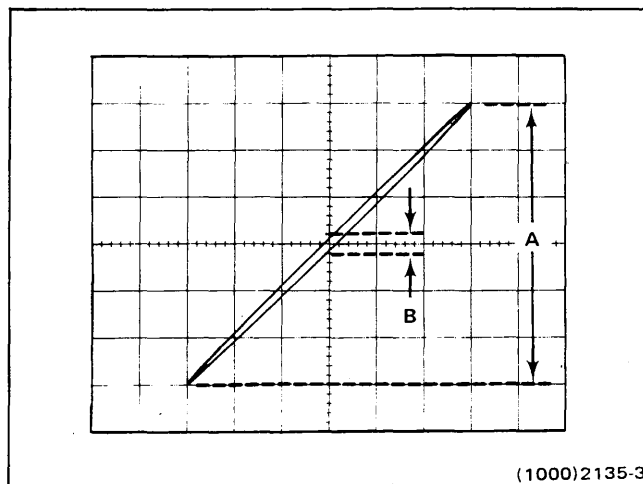

Figure 1-9. Phase difference measurement from an XY display.
4. Advance the INTENSITY control until the display is at the desired viewing level. Set the amplifier deflection factors and variable Volts/Div controls for six divisions of vertical and horizontal deflection, and set the position controls to center the display on the graticule as shown in Figure 1-9.
5. Measure and record the overall vertical deflection (A) and the opening of the Lissajous display (B), measuring vertically at the graticule horizontal center line (see Fig. 1-9).
EXAMPLE: Assume a display as shown in Figure 1-9, where A is 6 divisions and B is 0.4 division.